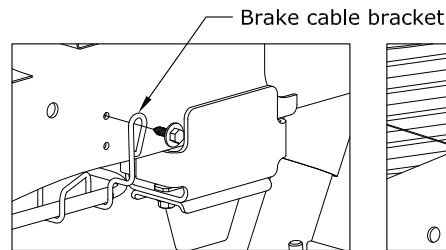

FIGURE C1: View from outside of Driver Side Frame.
- 1. Prepare to install sideplates.** Before installing the sideplates it is necessary to temporarily remove a brake cable bracket on the driver side of the frame, See figure C1. The M8 bolt will be needed to re-attach the bracket in a later step.